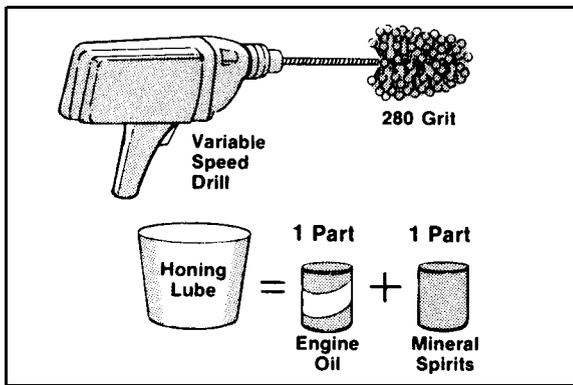

Figure 6-12
3. Using a drill, fine grit Flexi-Hone and a mixture of equal parts of diesel fuel and SAE 30W engine oil, de-glaze bores (Figure 6-12).